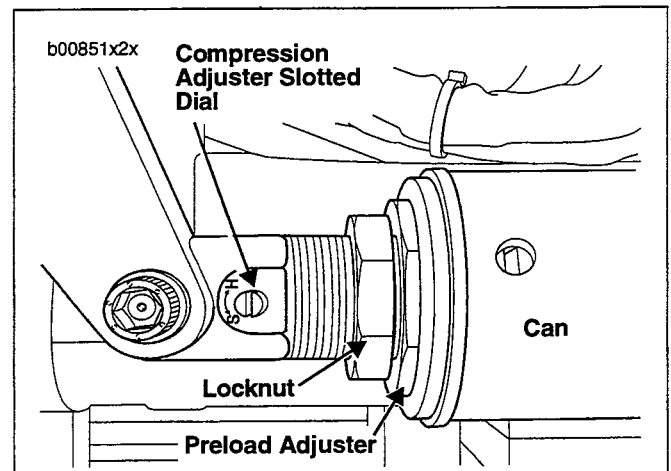

Figure 5. Preload and Compression Damping Adjustment
2. See Figure 5. To adjust shock preload, loosen the locknut and turn the preload adjuster at the end of the shock to move can towards front or rear of motorcycle. When finished, tighten locknut to 44-58 ft-lbs (59-78 Nm).
- *See Figures 5 and 6. To adjust rear shock to maximum damping setting, use screwdriver to turn slotted dial on appropriate adjuster clockwise until it stops. This is the maximum damping setting.*
- *See Figures 5 and 6. To adjust rear shock to factory recommended settings, turn dial counterclockwise from maximum damping the amounts shown in Steps 3 and 4 to align the reference marks.*
3. See Figure 5. Set compression damping using the slotted dial on the shaft at the rear of the shock. New factory setting is as listed below: